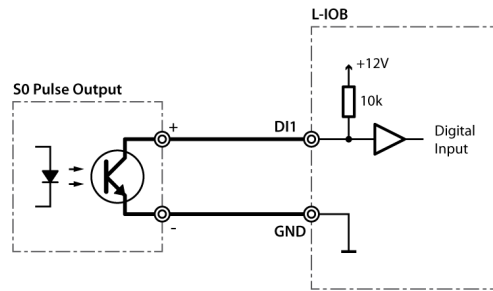

Figure 78: S0 pulse meter connected to DI
S0 pulse meters must be connected to digital inputs (DI) as shown in Figure 78.